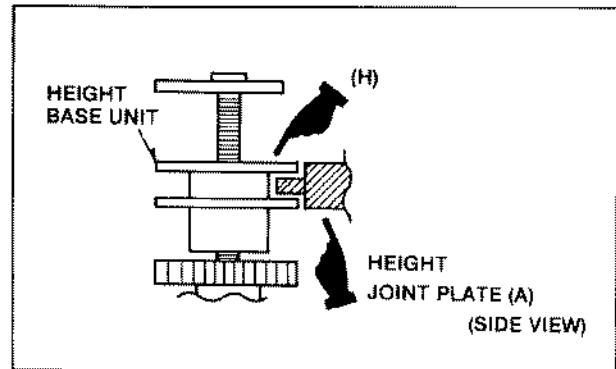

Fig. R21
3. Lift the Optical Pick Up a little and then install the Height Base Unit so that pin (A) of Height Joint Plate fits the (H) position of Height Base Unit as shown in Fig. R21. Then install the Height Spring (A) and (B).